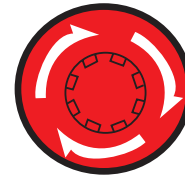

Figure 47. Emergency Stop Button
1. To stop the engine in the event of an emergency, push the **Emergency Stop Pushbutton Switch** (Figure 47).